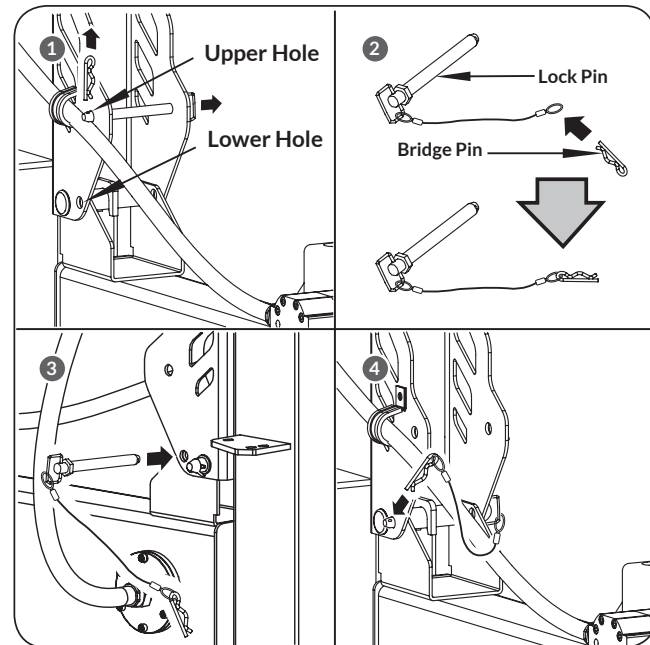

Figure 7g
14. Move the bridge pin and lock pin from the upper hole to the lower hole. Make sure the bridge pin is connected to the wire rope first and then insert the lock pin. (See **Figure 7g**)